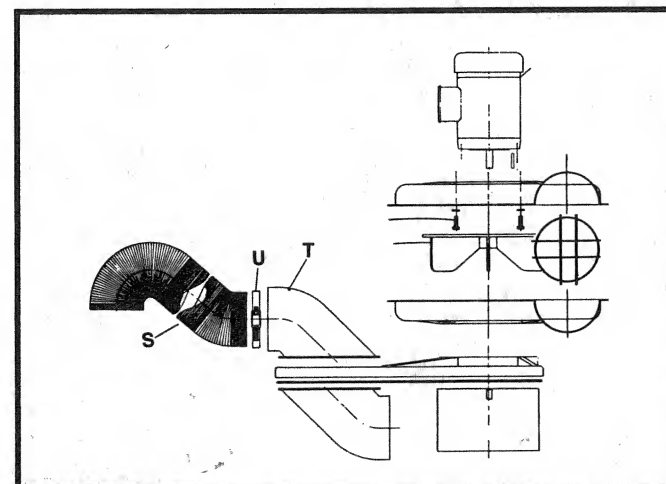

Fig. 4
11. Attach inlet hose (S) Fig. 4, to inlet elbow (T) using adjustable clamp (U) supplied.